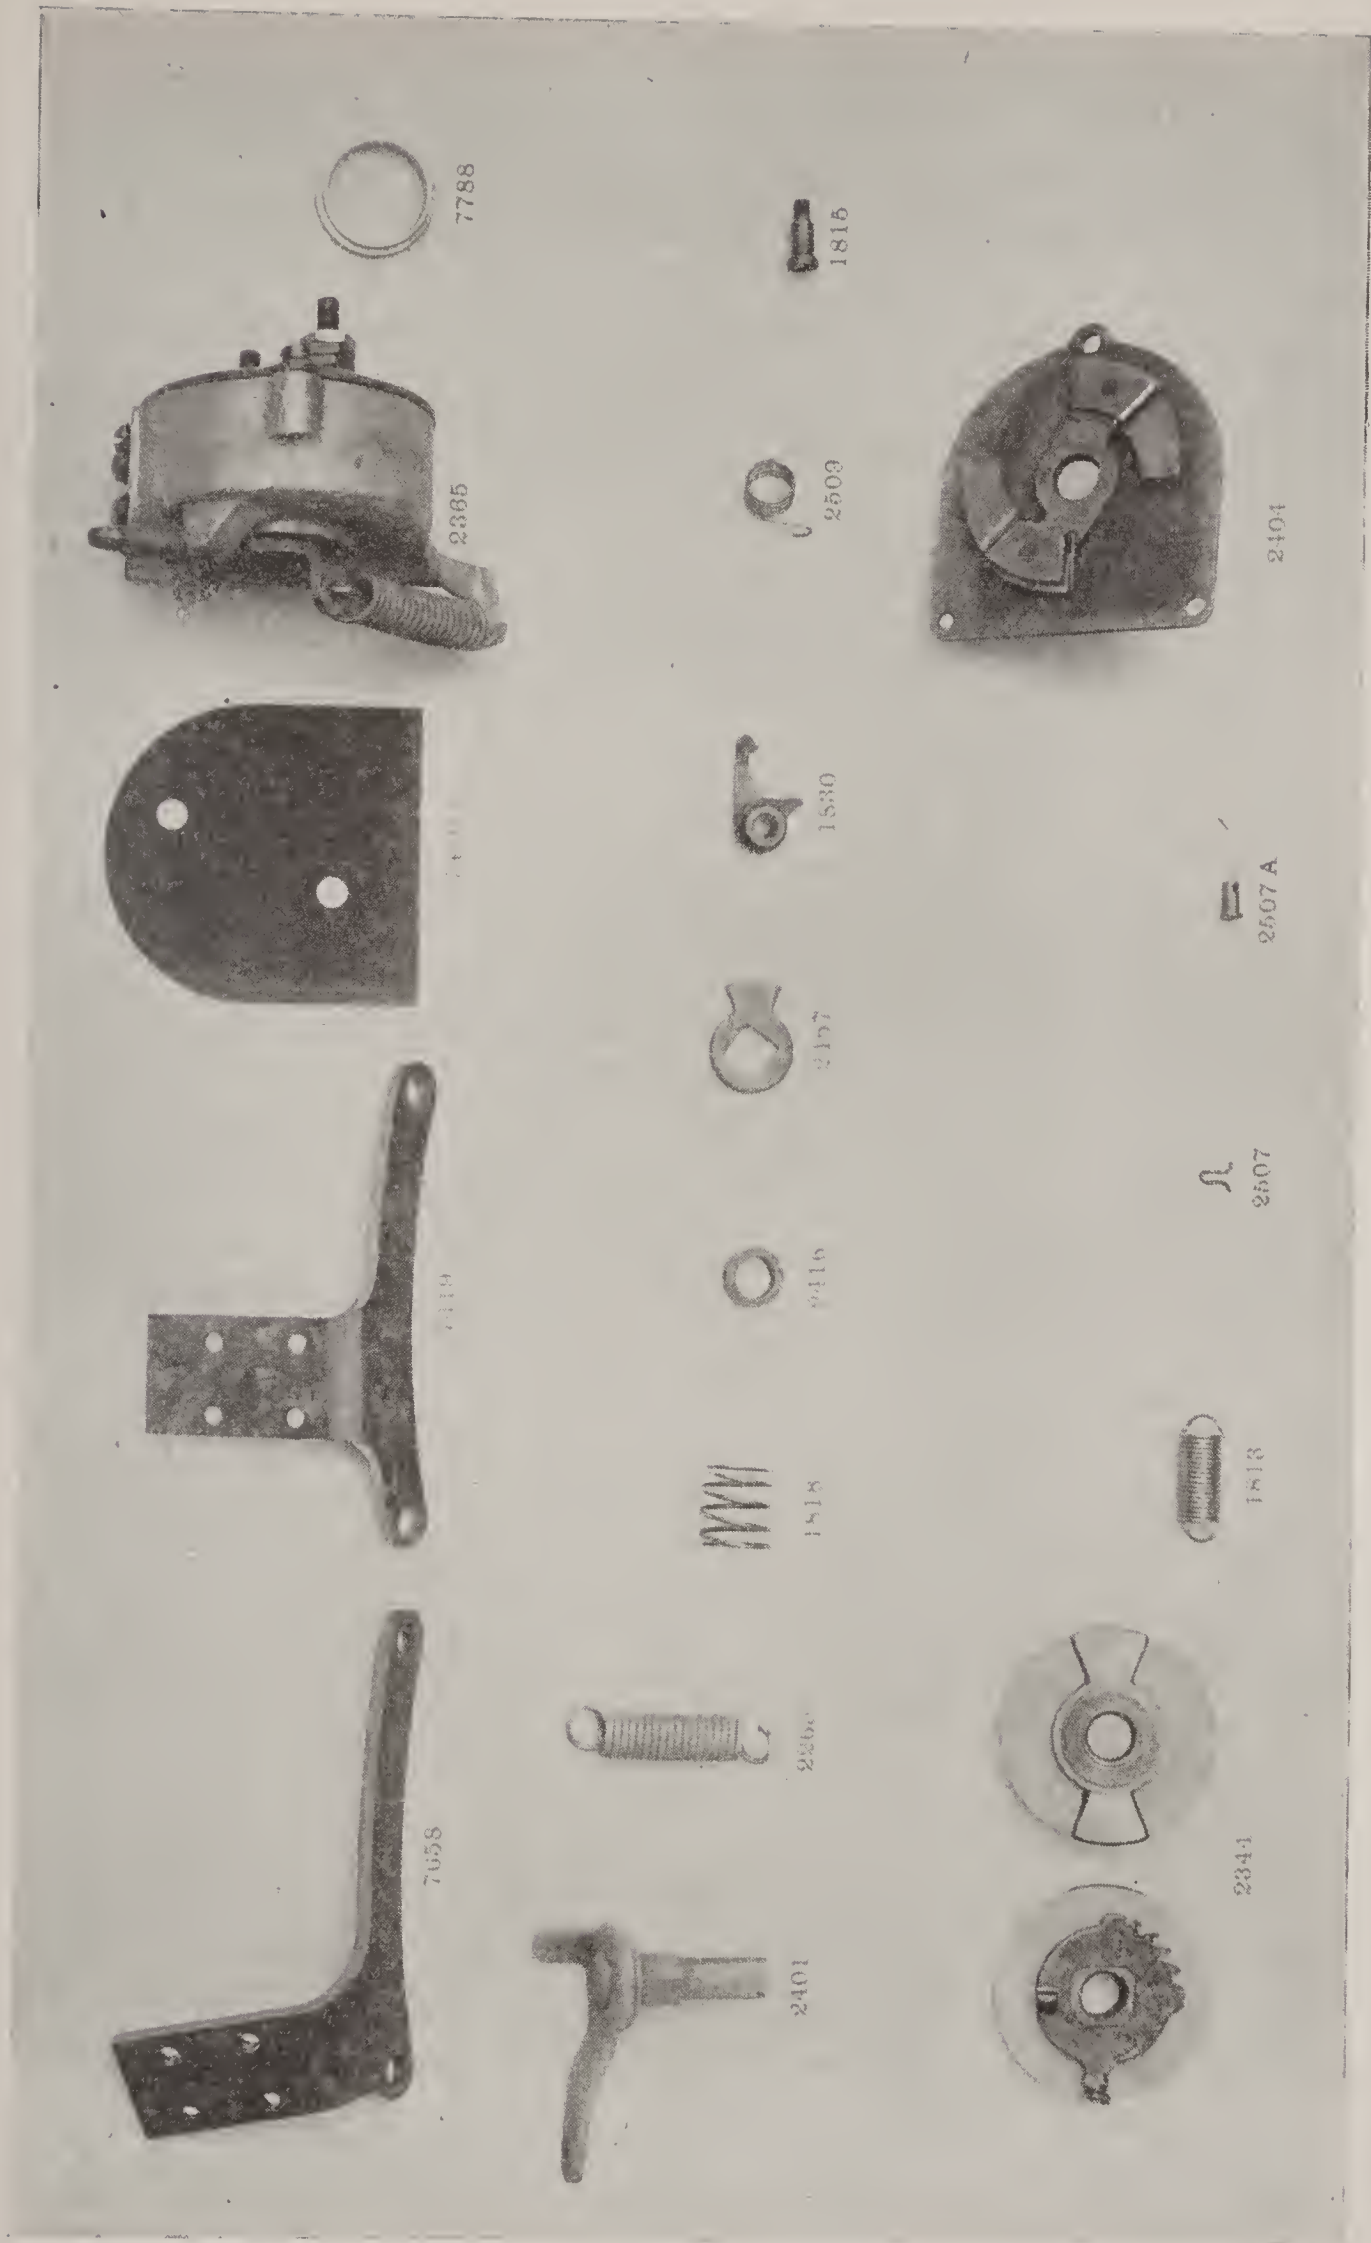
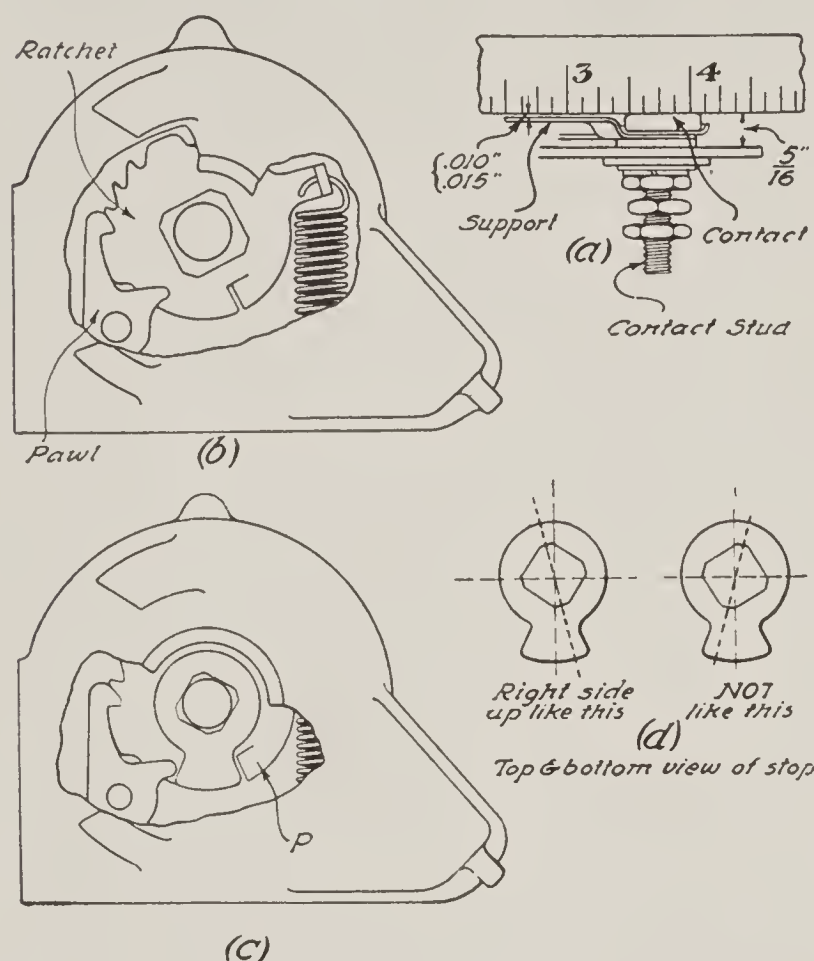

Fig. 306. View of Essential Parts of North East Starting Switch
Fig. 307. Assembly of Starting Switch
Starting Switch. When its operation indicates that the contactor blades have worn, the starting switch should be dismounted, and, if necessary, new blades should be inserted. To disassemble the switch, proceed as follows: (1) Remove the spring 2265, Fig. 306, on the switch case 2365; (2) remove the cotter pin from the collar 2416; (3) withdraw the shaft and lever 2401, together with the spring 1818; (4) remove the three screws which hold the cover 2404 in place,
The upper surfaces of the supports must be .010 to .015 inch lower than the contact surface of the block. Care should be taken that the upper surface of the contact blocks are $\frac{5}{16}$ inch above the inner surface of the cover. A small steel straightedge laid upon the face of the contact block and extended over the supports, as shown in Fig. 307 (a), will serve as a means of checking these dimensions.
Before placing in service, the contact surfaces must be carefully cleaned and lubricated with a very small quantity of vaseline. To reassemble the switch: (1) Connect the spring 1813, Fig. 306, to the arm of the ratchet; (2) place the contactor member 2344 in the switch case in such a position that the ratchet will lie against the pawl 1830; and (3) hold the switch case in the left hand, lever side up, and insert the right forefinger through the hole in the switch case and introduce the pawl into the first notch of the ratchet, Fig. 307 (b); (4) hold these parts carefully in position and replace the cover 2404, Fig. 306, fastening it to the switch case by means of the three screws; (5) insert the stop through the hole in the switch case and replace it upon the ratchet plate in such a position that the elongated portion of the stop will lie between the raised projection which is found on the ratchet plate and the end of the short lever on the pawl as shown in Fig. 307 (c). It is very important that the stop be placed in the switch right side up, Fig. 307 (d) illustrating the proper method of doing this. (6) Place the spring on the shaft and replace the shaft in the switch, taking care while entering the shaft not to disturb the arrangement of any of the switch parts; (7) replace the collar and the cotter pin; and (8) connect the spring 2265 with the lug on the switch case. A drop of light oil should be applied to the bearing point at each end of the switch shaft 2401.